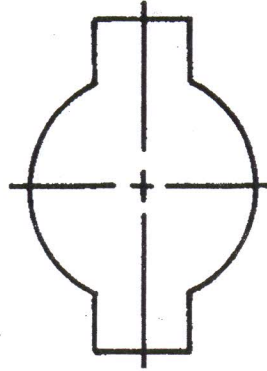

Figure 8: An Electrical pushbutton
- (c) Punching of special-shape holes in sheet metal and plate can be done in many ways. Figure 8 shows that a typical hole for an electrical pushbutton. A special punch-and-die set could be manufactured for this application at a cost of approximately RM2500. However, this punching job can be done at a considerably lower tooling cost.
- i. Referring to Figure 8, explain briefly how to lower the tooling cost?